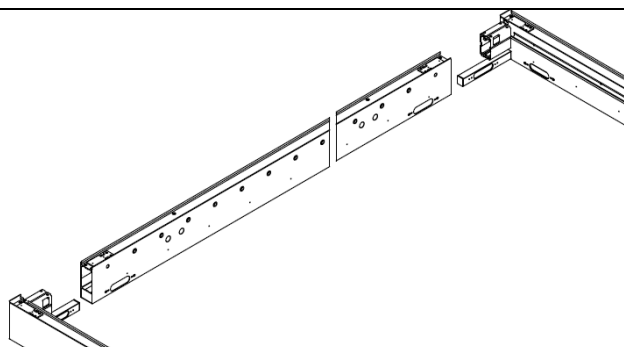

Figure 34
12. Insert both cross beams successively into the ends of the lengthwise beam fixed on the wall – bone to the upper chamber and the arm of the angular overflow to the lower chamber, the end cap adheres to the wall - fig.34.